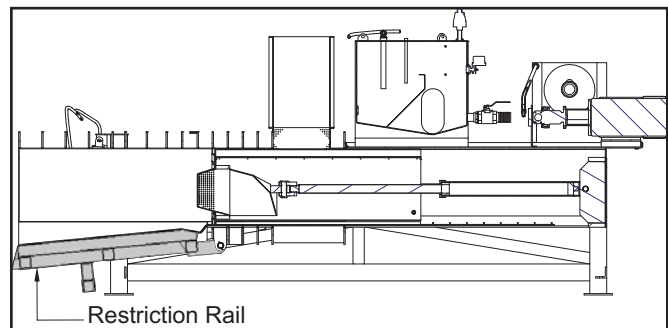

Figure 22. Restriction Rail Lowered
The restriction rail (see Figure 22), provides a variable restriction (modulation) on the passage of product to the discharge. This restriction regulates the force required from the plunger to push the product toward the discharge. It is the compressing action of the plunger that forces the water from the product. The water is evacuated through drain holes in the frame.
Note: Moving the control box **RESTRICTION Switch (S-2)** (see #7 on page 8) from “**AUTO**” to “**MAN**” allows the automatic restriction control system feature to be bypassed. In Manual mode, the Restriction Rail cylinder pressure is zero (0) and the Restriction Rail will fully open (lower) (see Figure 22).